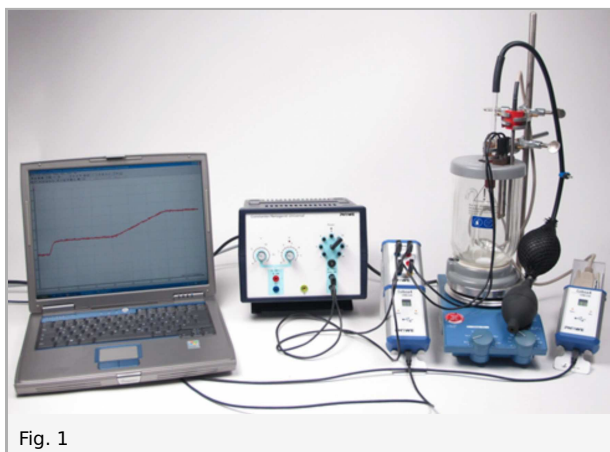

Fig. 1
- Set up the experiment as shown in Fig. 1.